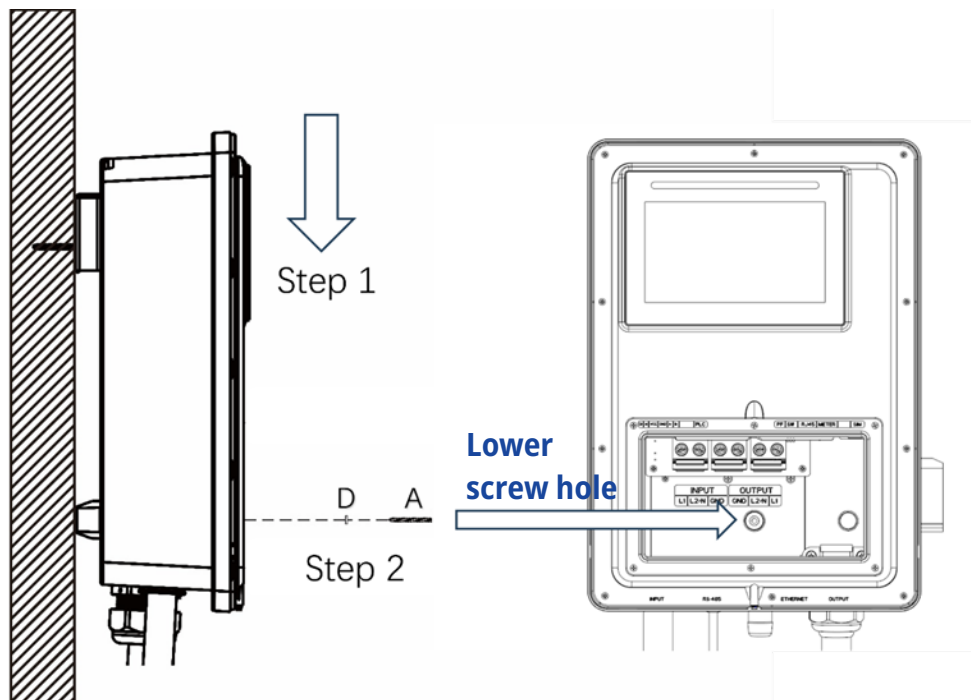

Figure 4.7 Fixing the Charger on the Wall
- 1) After the positioning plate is fixed in a horizontally leveled position, install the charger on the positioning plate by sliding it down in the direction of the arrow depicted in **Step 1** on the left of **Figure 4.7**, till the device hangs firmly.
- 2) Use the one remaining ST4x40 screw (wall-mounting **Accessory B**) and the 1-piece waterproof gasket (wall-mounting **Accessory D**) to fix the lower part of the charger on the lower screw hole on the wall (**Step 2** as shown in **Figure 4.7**). The screw hole on the charger is found in the back of wiring area, as shown on the right of **Figure 4.7**.